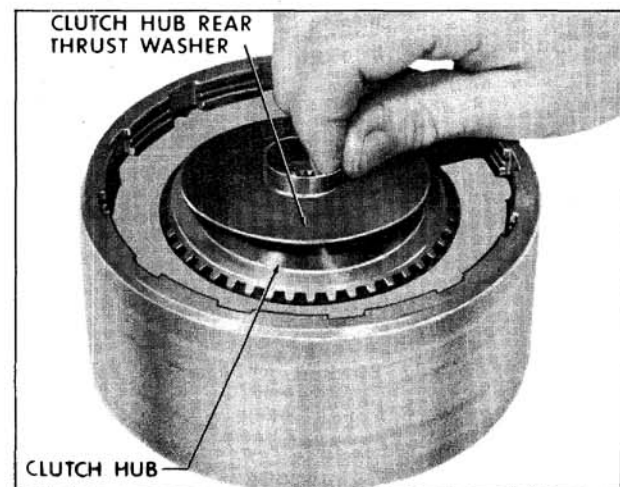

Fig. 6-430 Removing Thrust Washer
3. Remove clutch hub rear thrust washer. (Fig. 6-430)